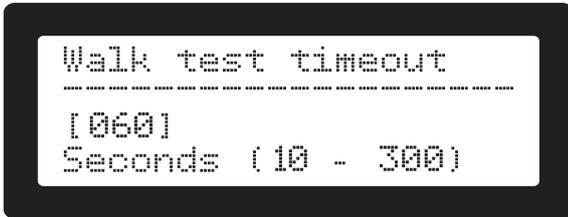

Figure 54. Set Walk Test cancellation time screen
- Select menu item **[8. Walk test]**: The automatic cancellation time of the walk test is requested (see Figure 54 below). The default/last used value is already in the entry box. If a different value is required it must be keyed in with the numeric keys. Valid values are 10 to 300 seconds.